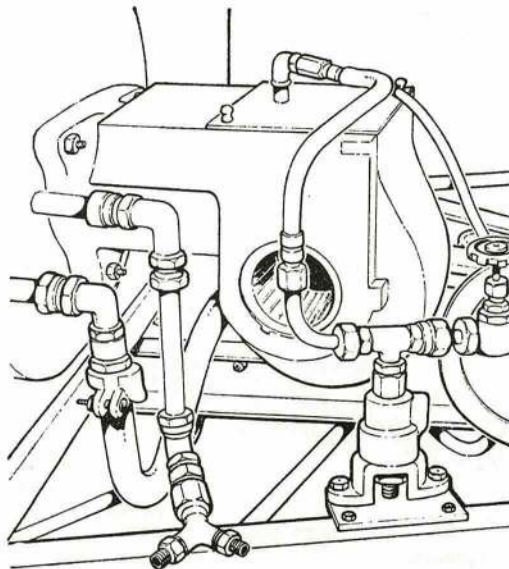

Fig. 8. BLOWER
27. Blower. A centrifugal type blower (Fig. 8) is fitted to provide a forced draught of air to the combustion chamber. It con-